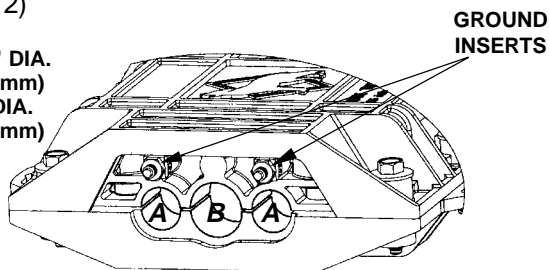

FIGURE 2 - CABLE ENTRIES AND GROUND INSERTS
3.01 The Cable Retainer Plate works with the bottom shell half to provide three cable entries: two 3/4" (19 mm) entries and one 1" (25 mm) entry. (Figure 2)
3.02 Threaded Ground Inserts pass through the Cable Retainer Plate adjacent to the 3/4" (19 mm) diameter entries. (Figure 2)